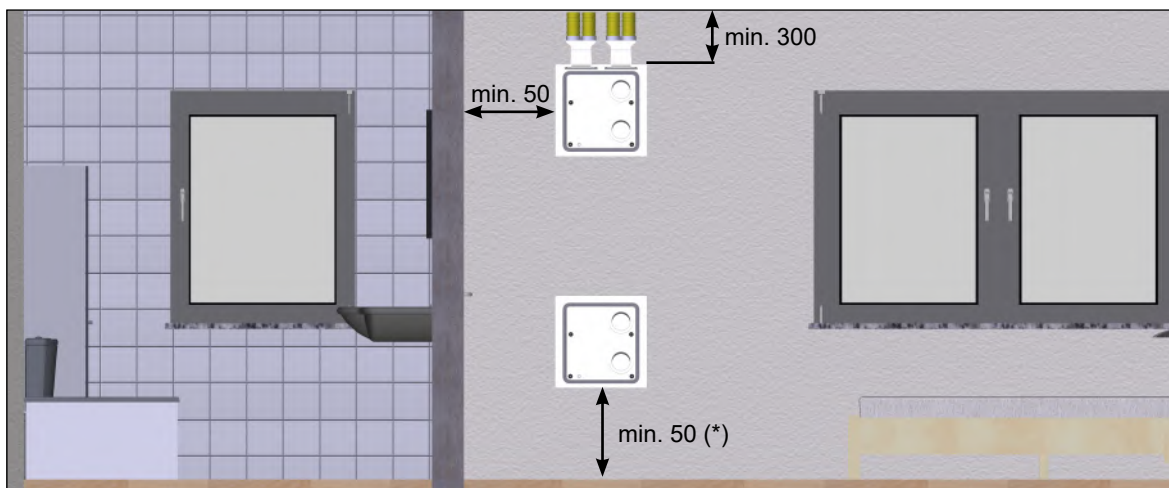
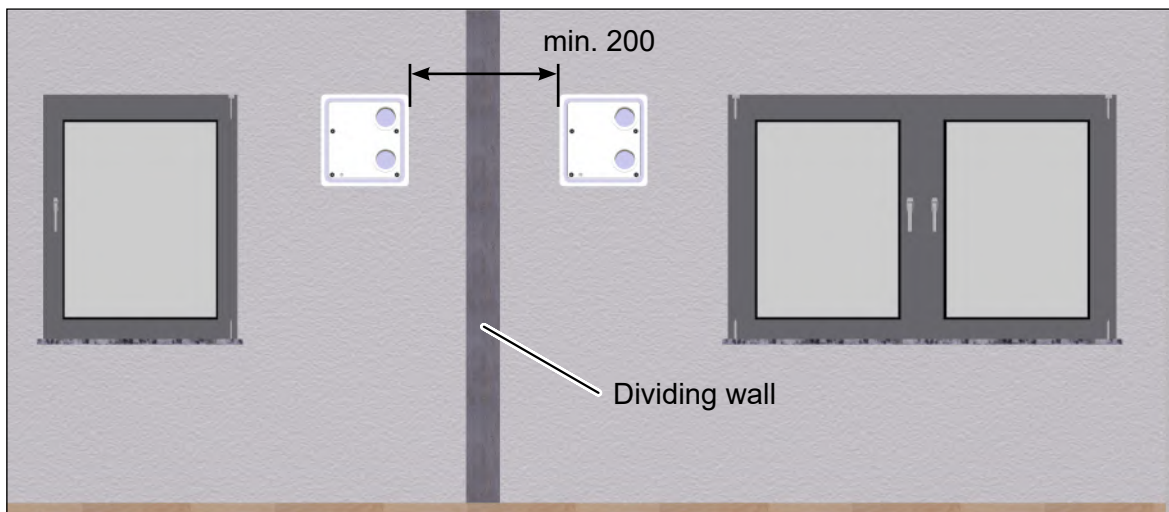

Fig. 5: Minimum distances and options for positioning the M-WRG-M/MB-FR75/1 / FR75/2 installation kit, dimensions in millimetres
Fig. 6: Lateral minimum distance between two wall boxes, dimensions in millimetres
- The flush-mount installation kit (wall box) must be installed so that the openings for the flexible pipe connections always point up (see Fig. 5).
- ▶ Maintain the following minimum distances (see Fig. 5 and Fig. 6):
- The distance between the side and bottom edges of the wall box and adjacent surfaces should be at least 50 mm (exception: if a condensate connection is used, see (*) in Fig. 5 on page 10). The ventilation unit will be easier to operate if this minimum distance is maintained. It also allows the air filter to be replaced without obstruction.